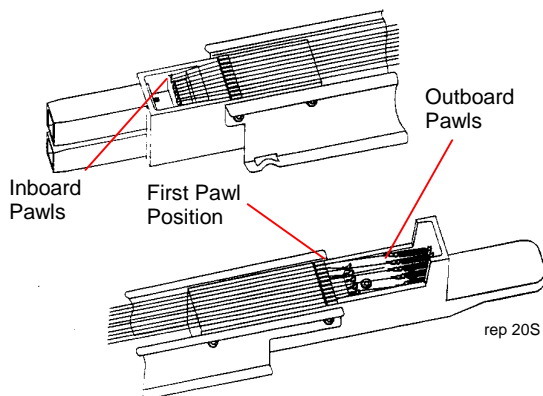

Figure 1. Replacing the Grid Wires
2. (Figure 1): Replace the grid wires.
- b. Loosen the Inboard Pawls, New Spring Hook (2) and screw.